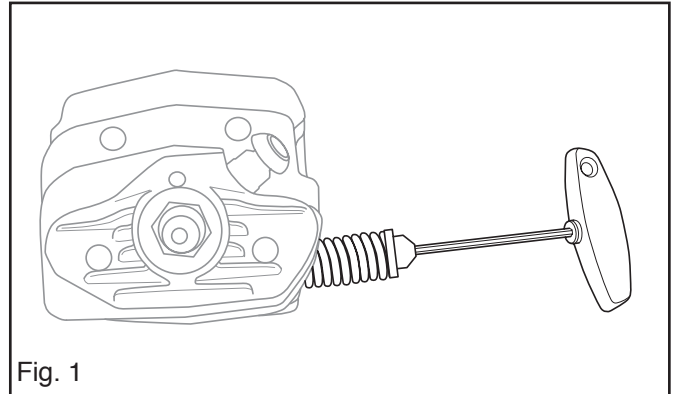
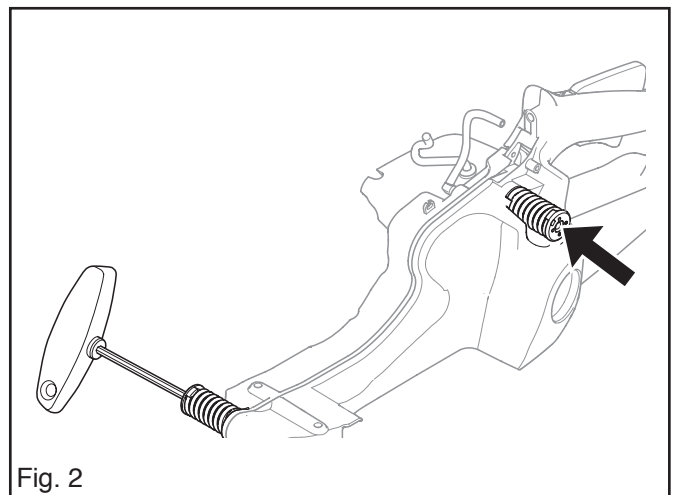

Fig. 1
Fig. 2
2. Remove the spring on the cylinder with a 4 mm Allen key. See fig. 1.
1. Fit the springs on the cylinder and tank with a 4 mm Allen key. See fig. 1 and fig. 2.